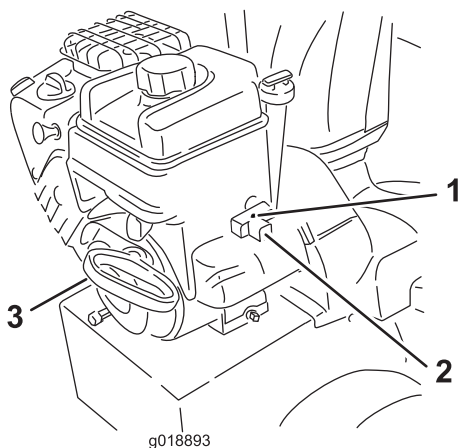

Figure 27
7. Start the machine pulling the recoil starter or pressing the electric-starter button (Figure 27).